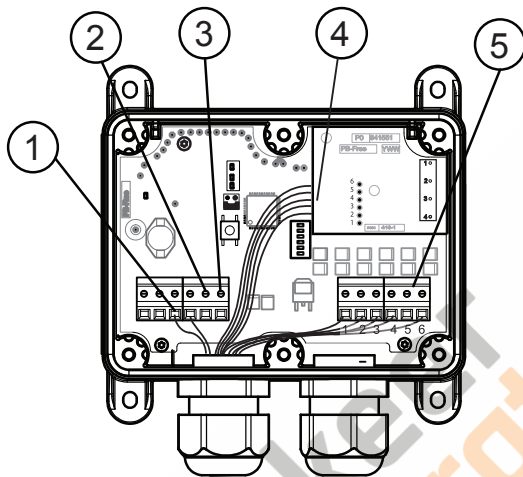

Figure 2. Sesam 800 RXM 12/24 V DC to ATV winch without cable
- 12/24 V DC Power connection (see ② in Figure 2).
- Ground, 0 V (-) (see ① in Figure 2).